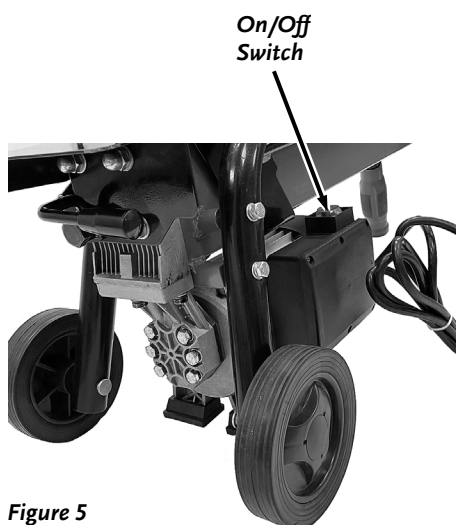

Figure 5
2. Push the On/Off Switch all the way in and hold it to start the Motor (**Figure 5**).